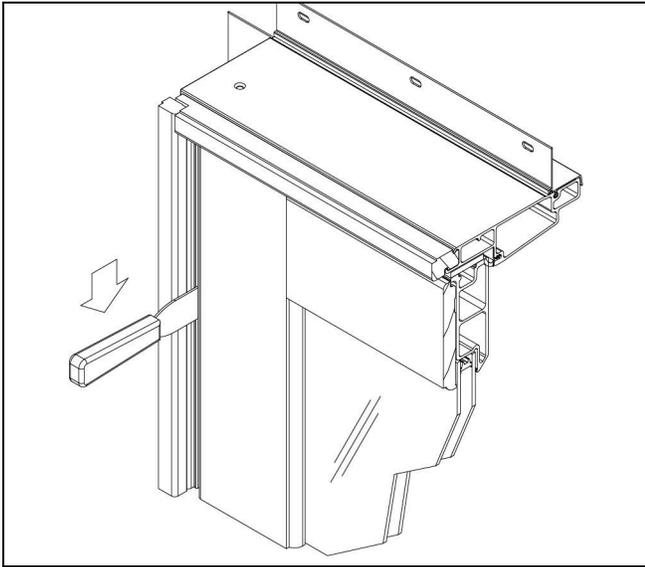

Figure 2 Interior View
1. To remove the stationary panel insert a stiff putty knife between the stationary panel and jamb toward the top of the panel as shown in Figure 2. Slide the knife down until it hits a stationary panel clip. Once the stationary clip is located, insert the knife between the clip and panel.